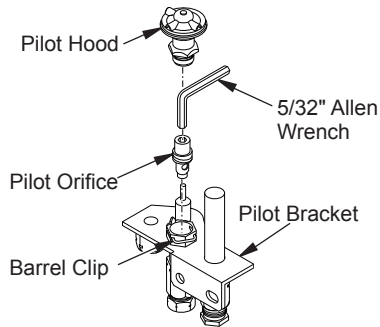

Figure 57 - Converting Pilot Orifice
- Remove pilot hood by pulling up until it disengages from barrel. Do not remove retainer clip (see Figure 57).